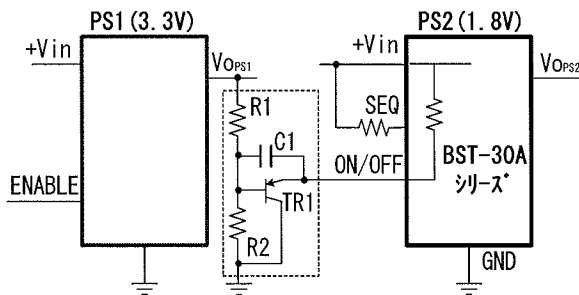
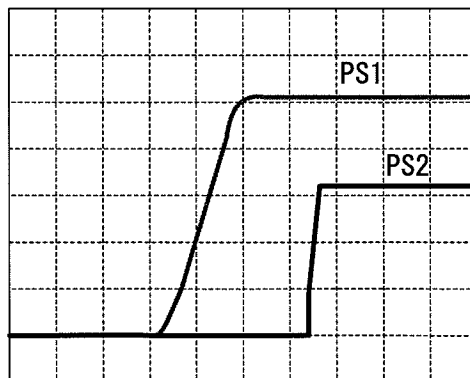
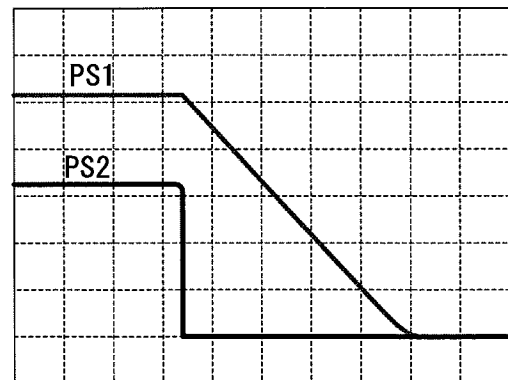

Fig.10 Example for Sequential operation connection
Fig 11-1 Sequential operation (Power-Up)
Fig 11-2 Sequential operation (Power-Down)
Sequential operation is shown in figure 10. By composing a circuit of PWRGD signal from PS1(3.3V)with components such as resistance-capacitor etc. inside the dotted line, the control voltage will be input to SEQ pin of PS2(1.8V). Figure 11-1 and 11-2 show the wave form at operation. Figure 11-1(Power-Up)shows a wave form of ; power-up the PS1(3.3V) first, and once the PS1(3.3V) reaches a stable voltage, PWRGD signal of PS1 will be output. Then time constant will be generated by the time constant circuit composed of components such as R-C etc. inside the dotted line, and will be input to SEQ pin of PS2(1.8V) and control the PS2(1.8V). Figure 11-2 (Power-Down) shows the wave form of PS1 (3.3V) output voltage using the off signal which has been output at approximately 90% or below the rated voltage and when off-controlling the PS2(1.8V).
- Time constant circuit (C-R) inside the dotted line of figure 10 is a block diagram. In practise use, compose a circuit which suits the practical usage.